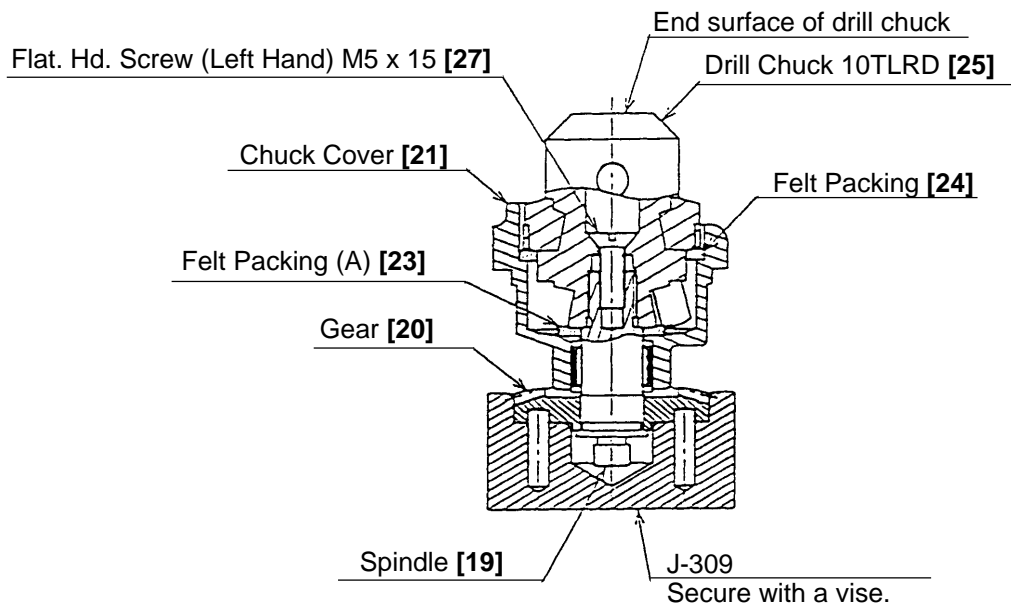

Fig. 8
- (1) First, mount the Chuck Cover [21], Felt Packing (A) [23], Felt Packing [24] and the Drill Chuck 10TLRD [25] and then tighten the Spindle [19] and the Drill Chuck 10TLRD [25] at the proper tightening torque using the J-309 tool. Next, tighten the Flat Hd. Screw (Left Hand) M5 x 15 [27] (See Fig. 8).
- (2) Secure the Ball Bearing [18] to the Gear Cover [2] with the Flat Fillister Hd. Screw M4 x 10 [17]. Hold the head of the Gear Cover [2] and press down on the end surface of the Drill Chuck 10TLRD [25] with a hand press to press-fit the spindle section into the above assembly.